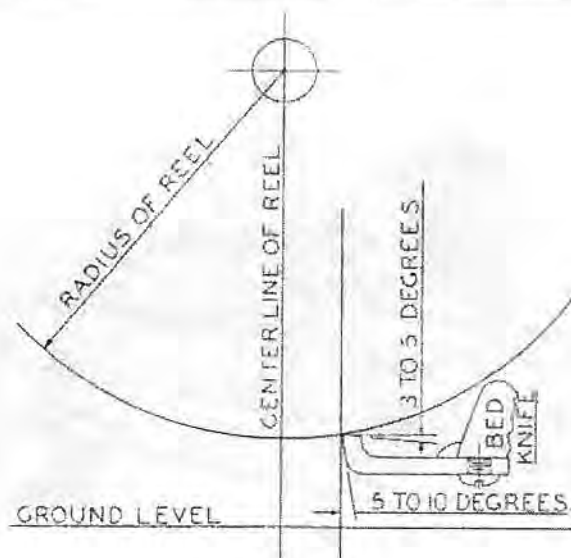
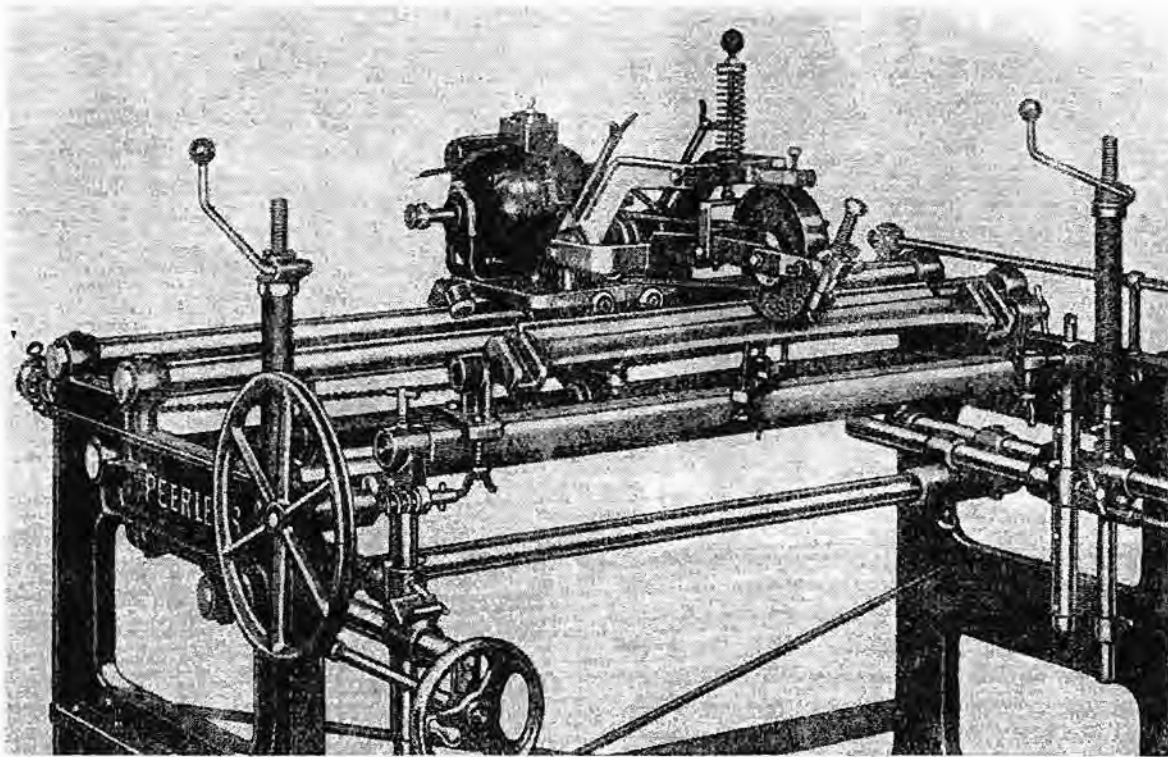

Fig. 9
Fig. 11
57. Fig. 9 illustrates the angle and relationship of the bed knife to the ground and to the diameter of the reel blades. There are exceptions to this illustration but this is the more general type that will be found. In all cases the front edge of the bed knife should be ground first. The wire edge left from this grinding will be removed when the top face of the bed knife is ground. The front edge can be ground perfectly square. However, as the illustration in Fig. 9 shows, an angle of 5 to 10 degrees is de-
sirable. After the front edge has been ground the top face edge is ready to be ground, and referring again to Fig. 9 a perfectly level or square grind would provide some clearance. However, an angle of 3 to 5 degrees is preferable to assure a proper clearance or relief behind the cutting edge. When grinding these surfaces take a light cut part way across and then examine the points of contact of the grinding wheel. Be sure that you have begun grinding behind the cutting edge on the top face so that you will be assured of clearance, and when you have ground to a new front edge the back edge of the lip will be lower, and the necessary relief given.
61. Start the motor and grind the front edge while cranking the carriage back and forth. Feed can be increased if needed by turning the feed screw (S-45, Fig. 2) downward. Continue grinding until the front edge is true and even all the way across with the degree of bevel shown in Fig. 9. With the front edge completed, you are ready to grind the top face of the bed knife as in Fig. 11.
We suggest that the bed knife be rotated to the position shown by loosening the "T" handle locking screws at either side of the bed knife grinding attachment. By using a position as illustrated in Fig. 11, bed knives with projecting ears will not interfere with the grinding head traveling to the extreme ends of the bed knife. When the bed knife is rotated to this position, the bed knife attachment will usually have to be moved closer to the carriage rails of the grinding head. To re-align the bed knives we suggest that you use the telescoping gage provided with your machine to determine if the bed knife is at an equal distance from the front carriage shaft at both ends. This was the same step accomplished in grinding the front edge by using the J-28-C finger as an indicator to the bed knife alignment. However in its present position the finger cannot be used satisfactorily and the adjustable gage will work best. The grinding head should be brought down